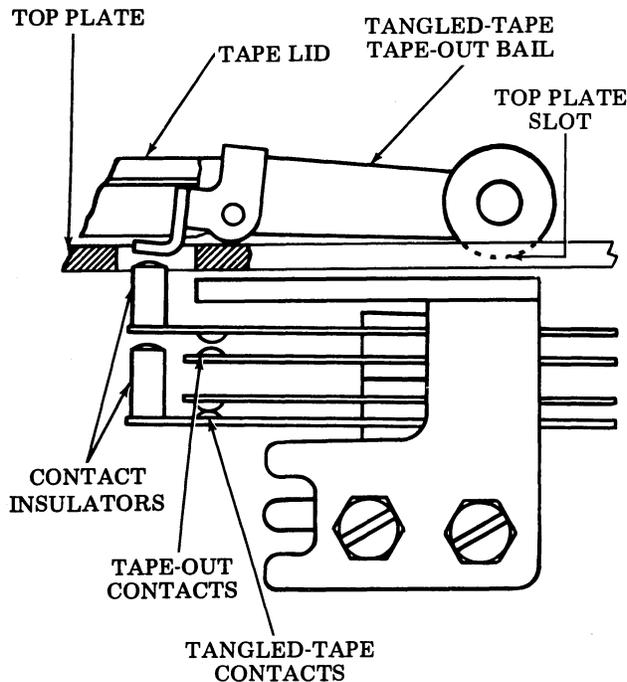

Figure 10 - Tangled-Tape/Tape-Out Contacts
3.18 With tape out of the reading head, the bail (being spring loaded) rests in its slot in the top plate. In this position (or with tape lid up) the tape-out contact is normally open and the tangled-tape contacts are normally closed (Figure 10).